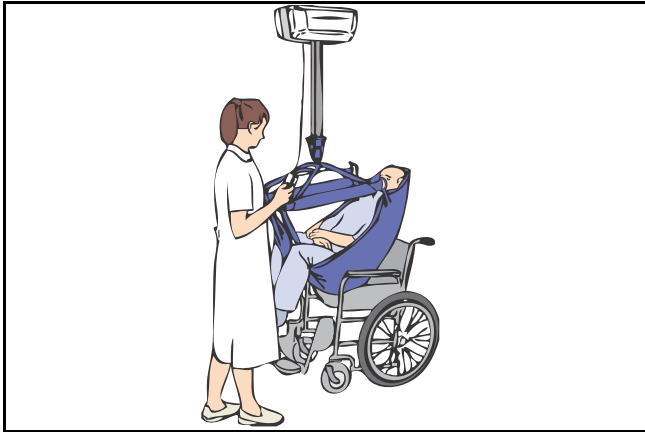

Fig. 26
- 2) Ensure that all four strap loops are securely connected, then raise the patient using the hand control. The head support area of the sling should now come into use. This is the most comfortable position for the patient transfer, as it reduces pressure on the patient's thighs. The angle of recline can be increased for the comfort of more restless patients, when lowering the patient back into a chair or transferring to a chair from the bed (see Fig. 26).